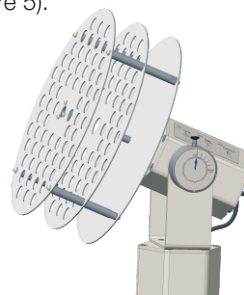

figure 4
1. Insert the stud on the rotation shaft into the center hole of the tray and make sure the tray is firmly touching the fixing block of the rotary plate, as shown in figure 4.